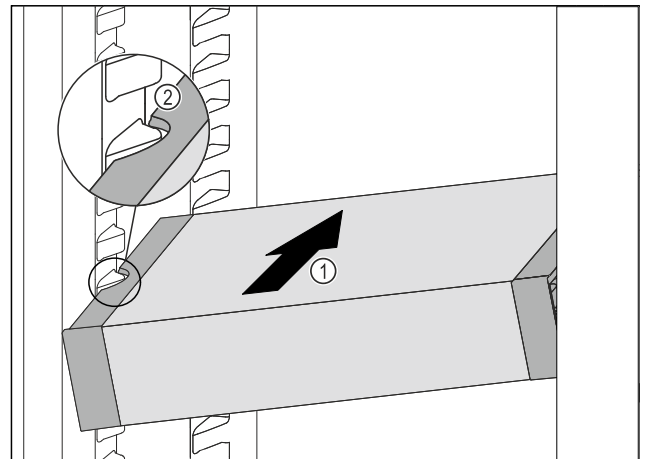

Fig. 92
- ▶ Insert the VarioSafe into the refrigerator compartment at an angle Fig. 92 (1) until the recesses in the side Fig. 92 (2) of the VarioSafe are at the level of the support rib in the refrigerator compartment.